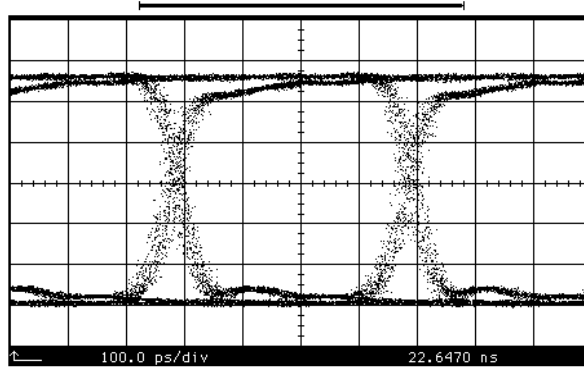

Figure 9: Limiting Amplifier Output
2. Set the Enable/Disable switch to Enable. The amplifier is enabled. A typical output of the limiting amplifier at OC-48 is shown in Figure 9.